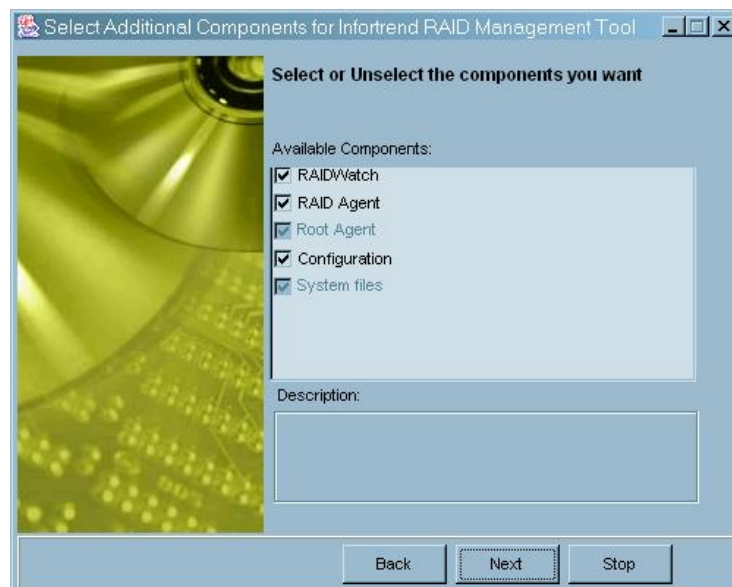
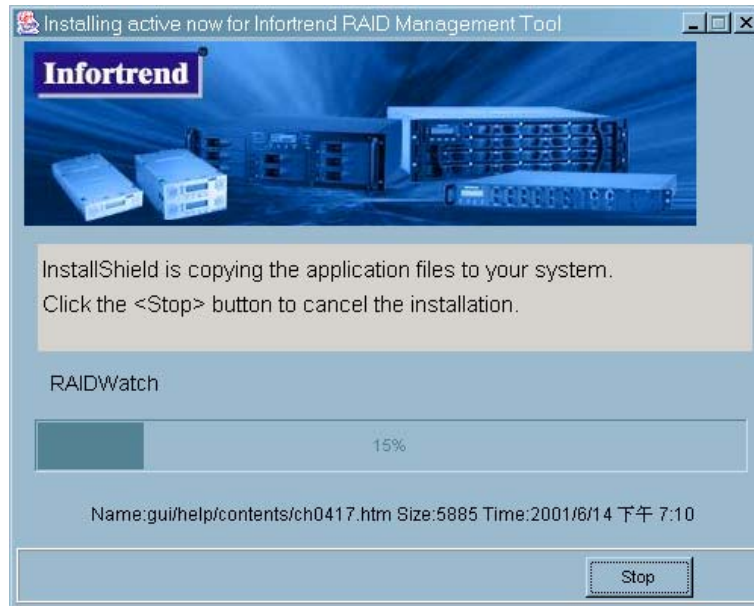

Figure 2-7: Optional Components
Figure 2-8: Installing Active
-  **Step 1.** If the *Next* button from *Figure 2-7* was selected, the Install Active window shown in *Figure 2-8* will appear. If you wish to stop the installation procedure, then click the *Stop* button.